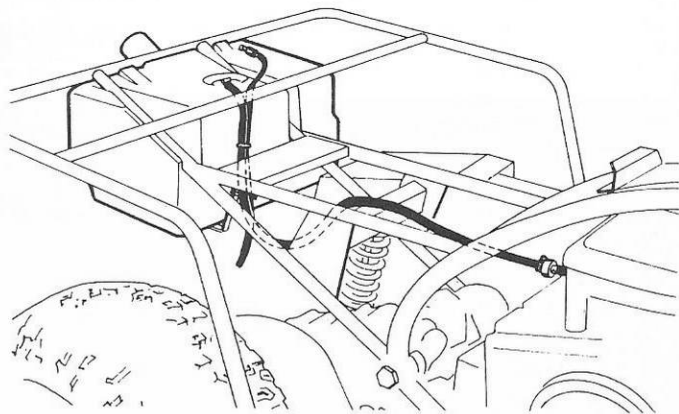

Fig. 62 ① Fuel Tank ③ Fuel Hose
- Check that vent hose is securely connected to the fuel tank strap (Figure 62), and that the end is open. A pinched or closed hose will not allow the fuel tank to breath.